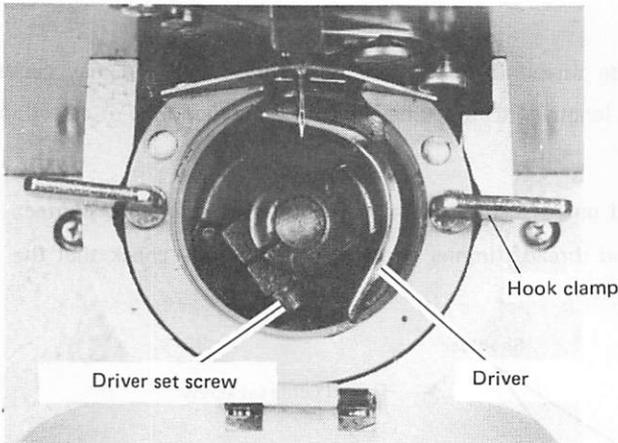

Fig. 10.4
- (1) After setting the hook clamp to horizontal position, as shown in Fig. 10.4, to remove the inner hook and the hook retainer, loosen the driver set screw using a hexagon key wrench and adjust the driver.